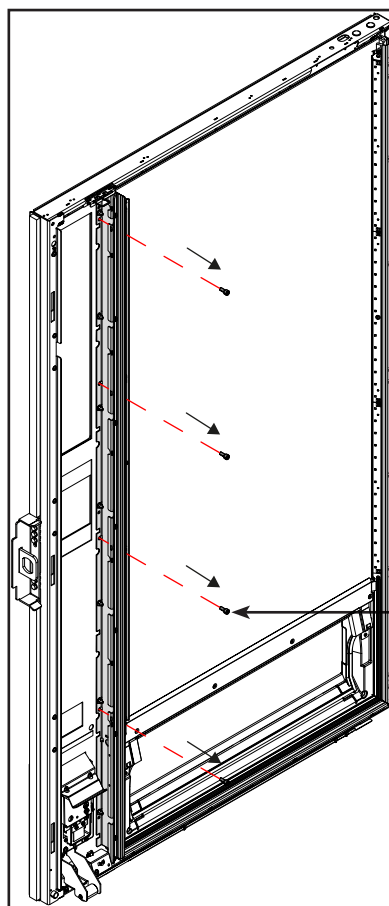

Figure 5
5. Remove 4x hexagon socket cheese head screw (size 5) (Fig. 5).